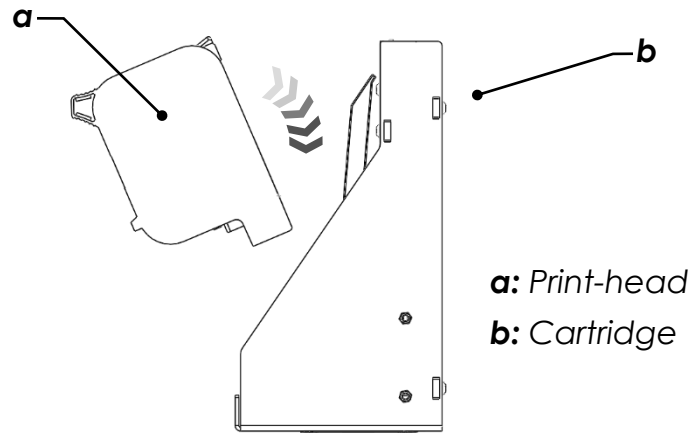

Figure 22
- Carefully insert the cartridge into the print-head and make sure that it is perfectly in place as shown in Figure 22. Avoid any extra force to prevent damage on cartridge or driver pins.